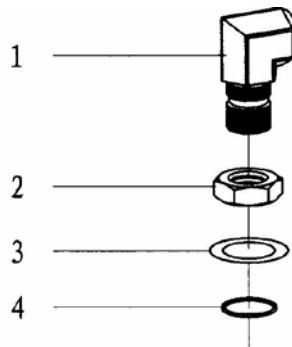

Fig. 19
1. Bend sub (NPT1-1 5/16-12UN) (Fig 19, Table 16)